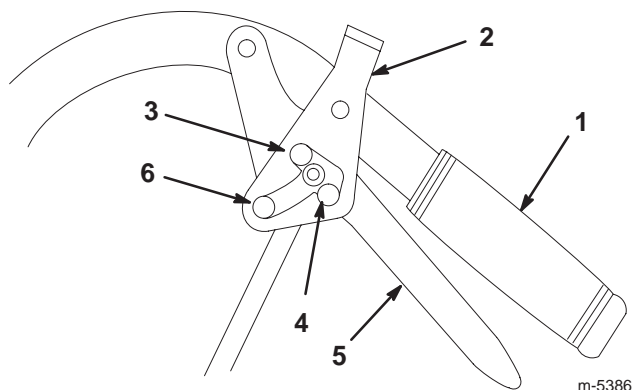

Figure 16
1. Squeeze the drive levers back (Fig. 16).
2. Place your thumbs on the upper part of the locks and move them forward into the **Park** position (Fig. 16).
2. Place your thumbs on the upper part of the locks and move them rearward until they are in the **Drive** position (Fig. 16).
2. Place your thumbs on the upper part of the locks and move them rearward into the **Neutral Lock** position (Fig. 16).
2. Place your thumbs on the upper part of the locks and move them forward until they are in the **Drive** position (Fig. 16).